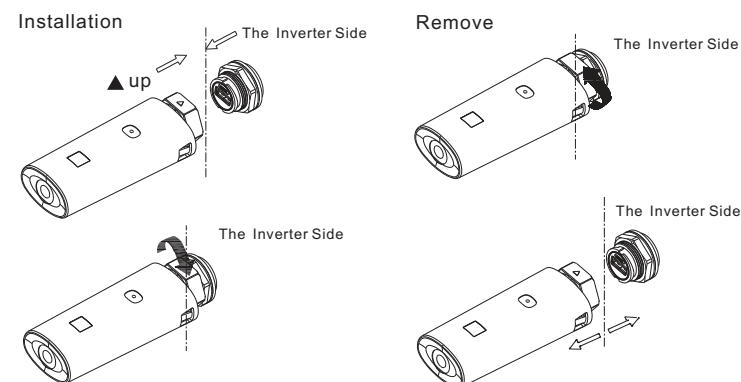

Fig 6.8B
- 3> As shown in Figure 6.8B, make sure that \triangle is on the front side, plug the monitoring module to USB_A port, and tighten the screws.